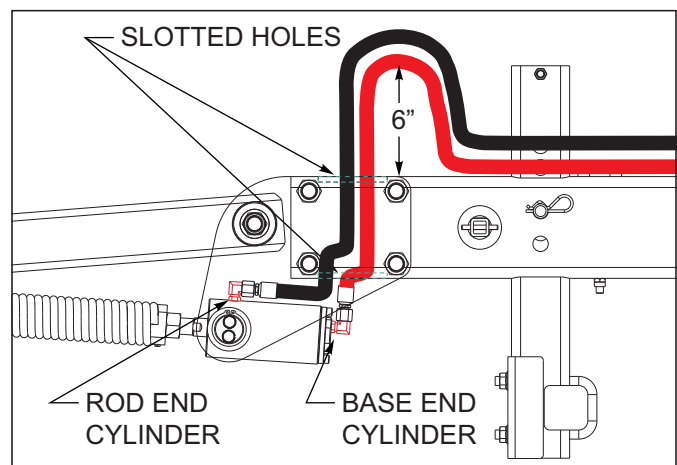

Figure 3-25: Hose to Cylinder Installation
10. On hydraulic 3BDT/Chopper Reel option, attach hoses down through the slotted holes of combo harrow mount arm to cylinders as shown See Figures 3-25. The one hose hooks to base end of cylinder to top set of holes of 8 port manifold, rod end to bottom holes of manifold.